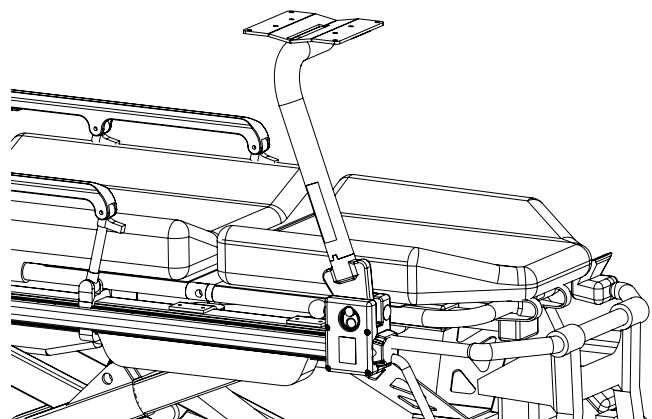

Figure 21: Installing the tubular arm in the clamp block
3. Install and secure the tubular tube in the clamp block (Figure 21). Refer to the « Install the SAS 500 in the Clamp Block » section on page 20 if needed.